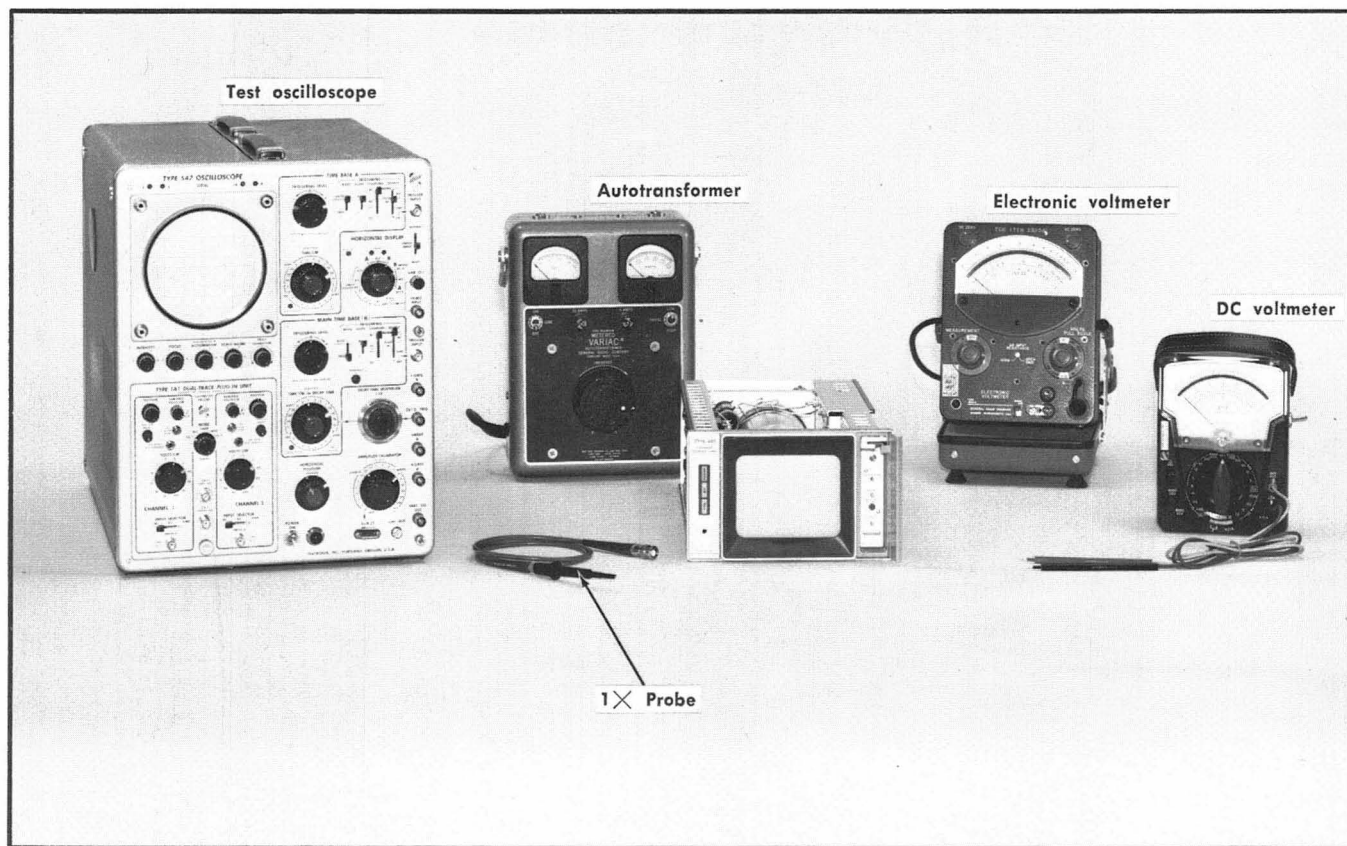

Fig. 6-2. Equipment required for steps 1 through 5.
- Test equipment setup is shown in Fig. 6-2.